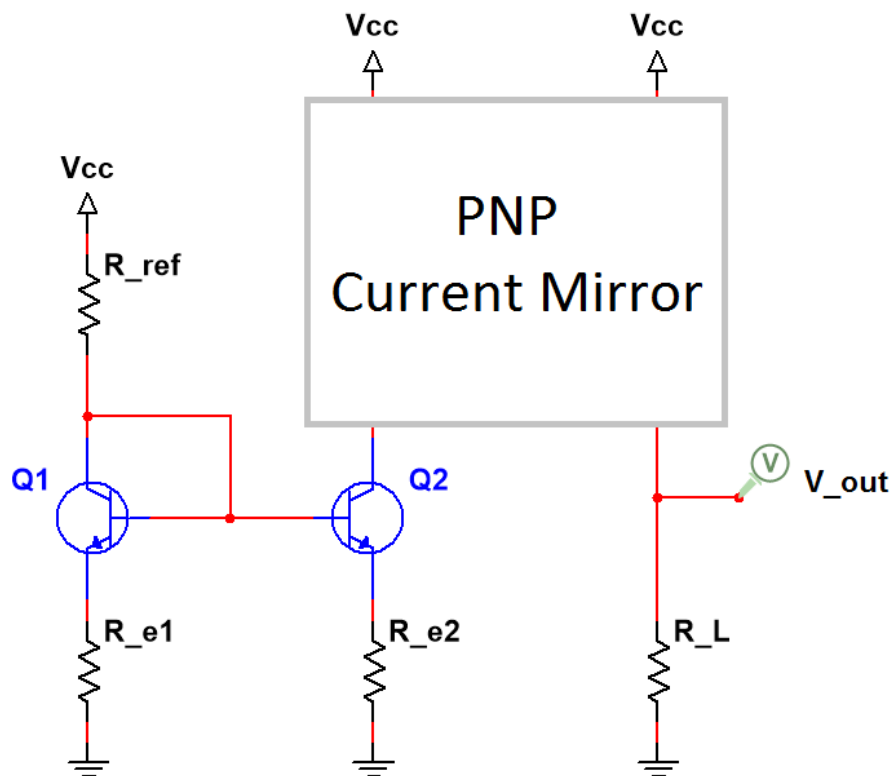

Figure 14: Schematic of the NPN Current Mirror Connected to the PNP Current Mirror with Test Circuit
3. Change your original NPN mirror back to a 1:1 ratio and connect the PNP current mirror that you designed as shown in Figure 14. Note that the load resistance of the NPN current mirror is replaced by the reference branch of the PNP current mirror. Measure the current flowing through different loads (parameter sweep) to show that the current mirror is in fact still acting as a current source with the correct output current.